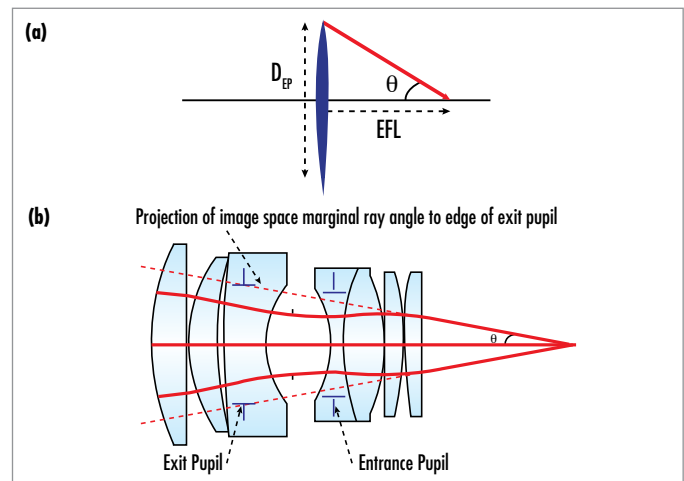

Figure 4: Visual representation of $f/\#$, both for a simple lens (a) and a real-world system (b).
It can often be easier to talk about overall light throughput in a lens in terms of the cone angle, or the numerical aperture (NA), of a lens. The **numerical aperture** of a lens is defined as the sine of the marginal ray angle in image space, and is shown in Figure 4.